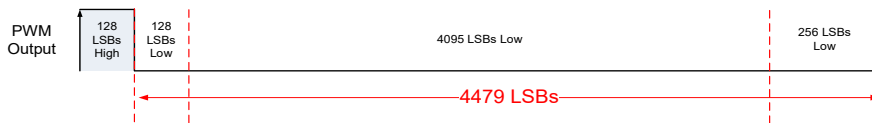
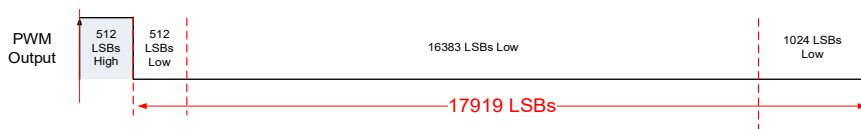

Figure 34. 12-bit PWM signal in diagnostics low mode
Figure 36. 14-bit PWM signal in diagnostics low mode
- Diagnostic low mode, see Figure 34 and Figure 36;